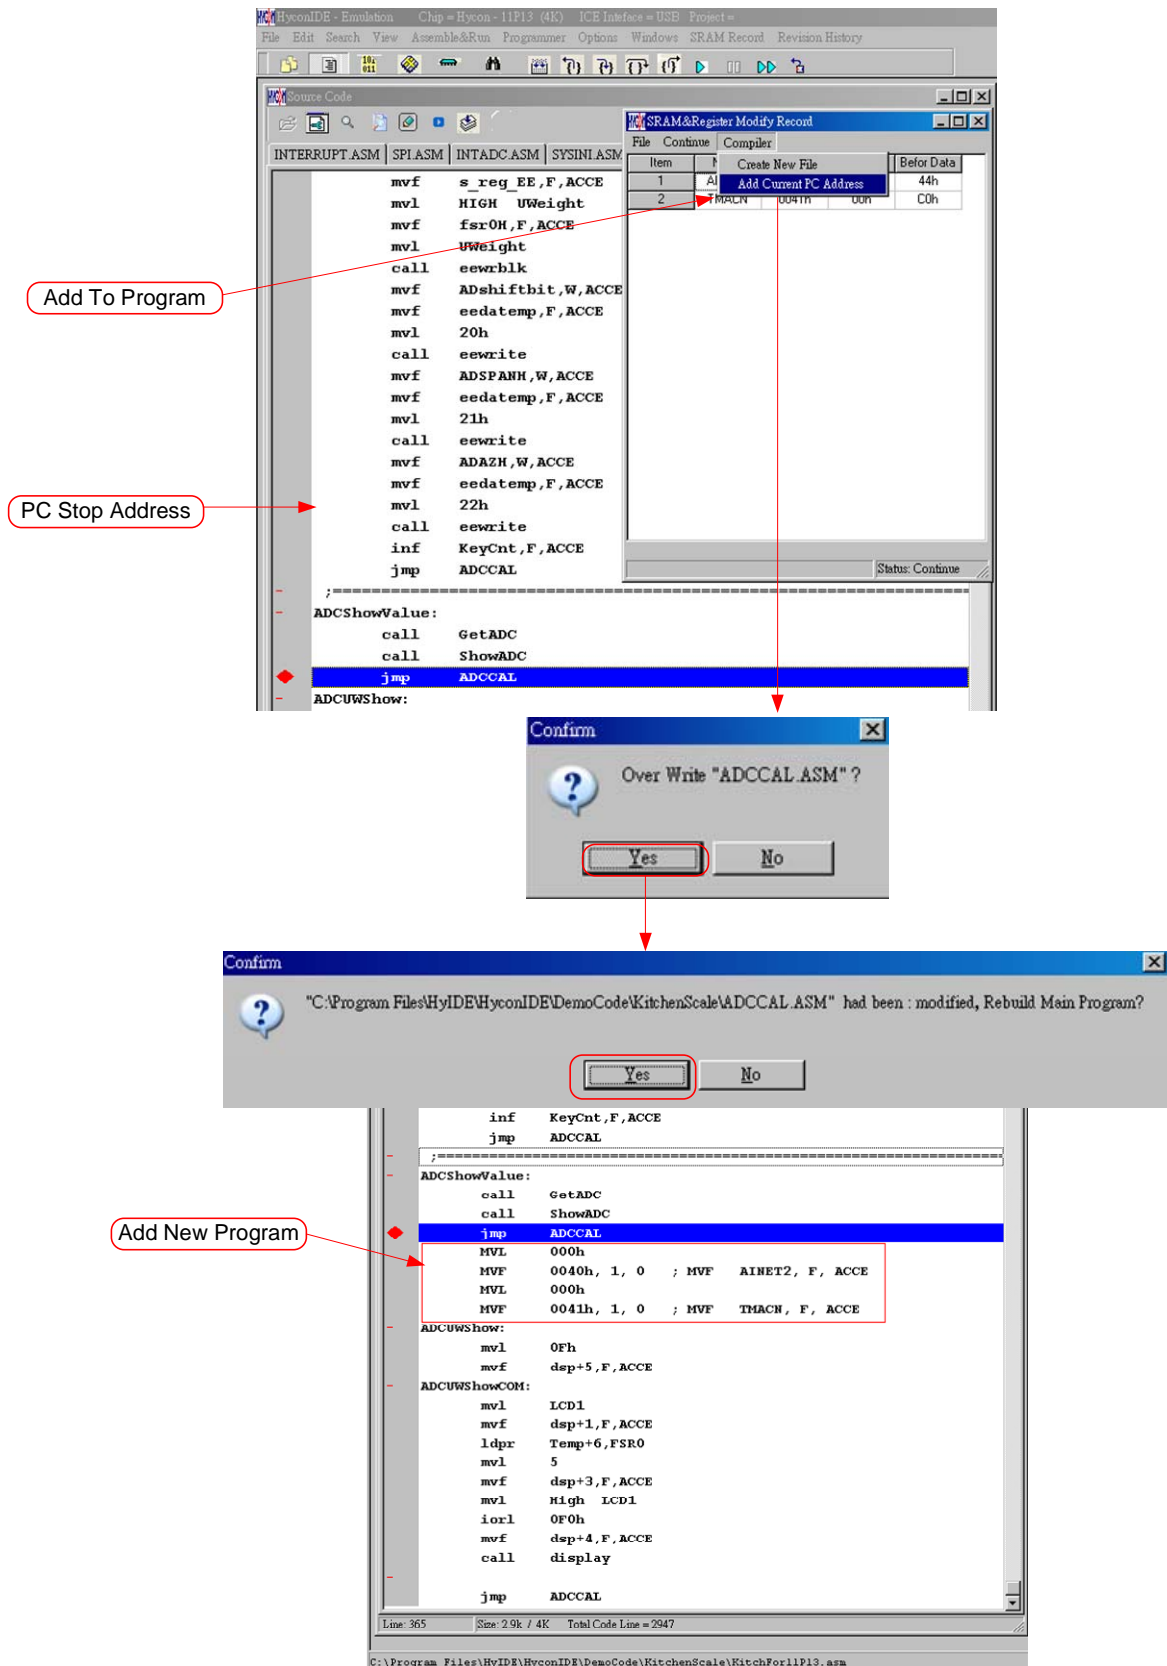

Figure 61
- (1) Click the network by mouse, CPIH can select to the specified network.
- (2) Click the network switch by mouse, CPIH can select to the specified network.
- (3) Click the mouse, a menu as Figure 61 will show up. Users can select the specified switch network.